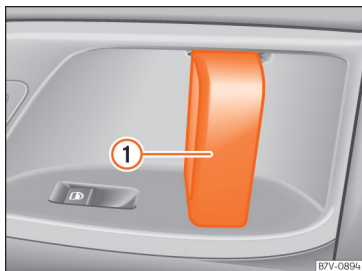

Fig. 98 On the sliding door: door handle ①.
- When the sliding door is released, open the door fully by pulling on its interior handle » Fig. 98 ①.